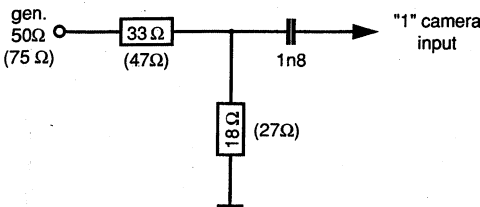

Fig. 7.1
- Inject a sweep signal 50-80MHz to camera input 1, via matching circuit as shown in Fig. 7.1